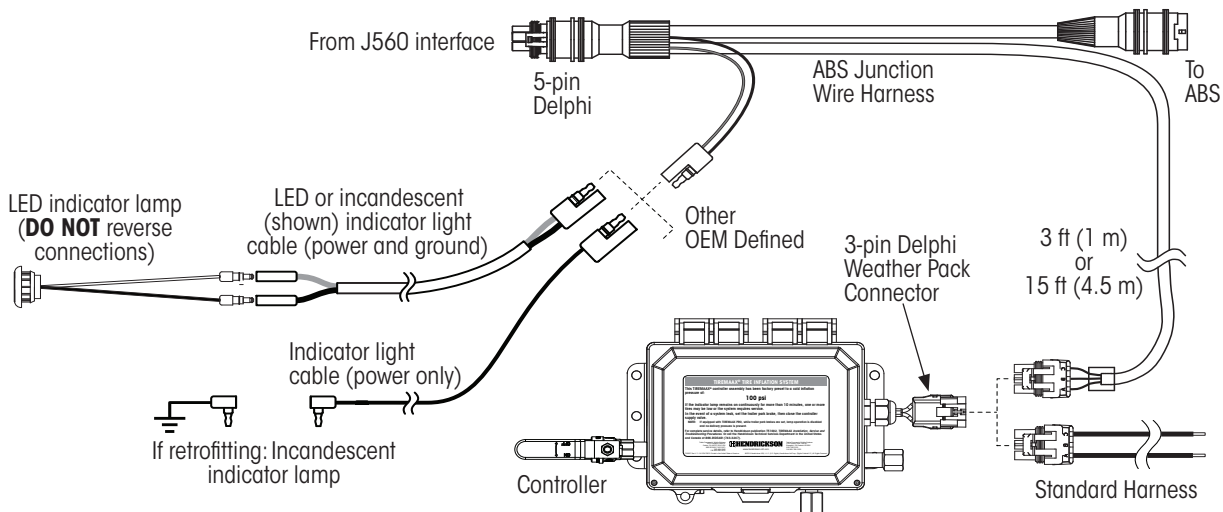

Figure 38: Wire harness and indicator lamp options
- Figure 38 shows various connections based on the options selected for the installation.
Refer to information provided in Figure 38 before continuing.
3. **Support** harness near connectors, as shown in Figure 38, to prevent strain. Ensure connections are secure and unable to move during operation.
4. **Bundle** excess cable as shown in Figure 38.